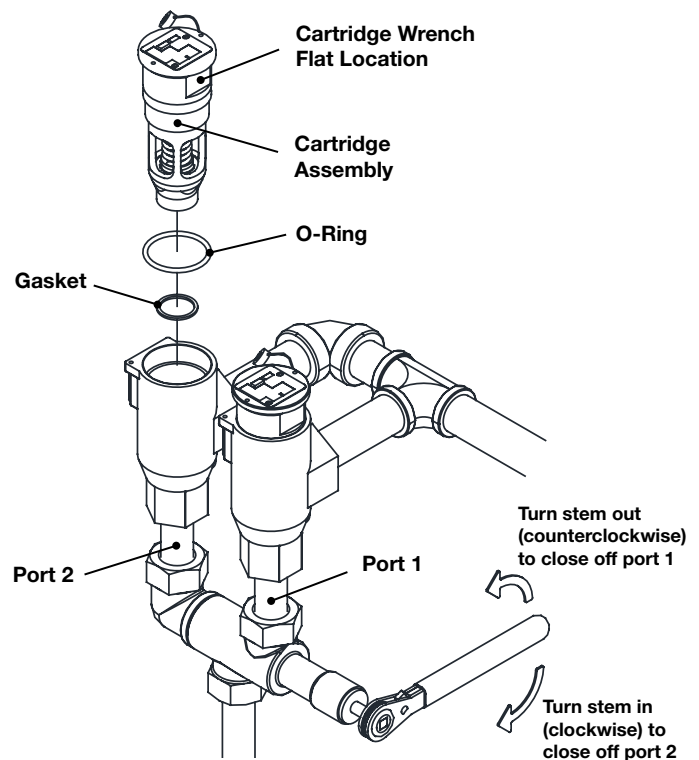

Figure 3: Replacing a Safety Relief Valve Cartridge
After completing the manifold and dual safety relief valve installation it is important to backseat the manifold so that port 1 is closed off. This is accomplished by turning the stem counterclockwise until it stops, as shown in Figure 3.
- Remove the cartridge from the body by using the wrench flat on the cartridge as show in Figure 3. It may be necessary to hold the valve body while removing the cartridge to prevent the body from unthreading from the pipe.